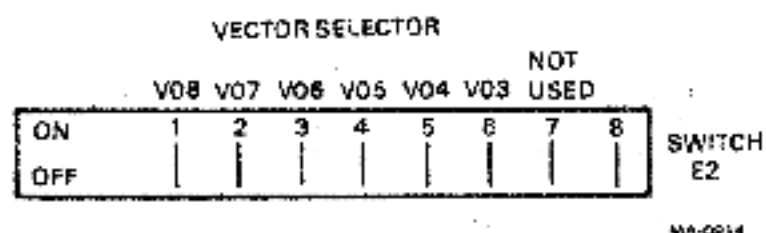

Figure 2-3 M7957 Vector Selection
2. Vector selection is accomplished by the 8-position switch at E2. Switch positions 7 and 8 are not used. Switch position 6 corresponds to vector bit 3, 5 corresponds to vector bit 4, etc. When a switch is closed (ON), a binary 1 is decoded. When a switch is open (OFF), a binary 0 is decoded (Figure 2-3 and Table 2-4).